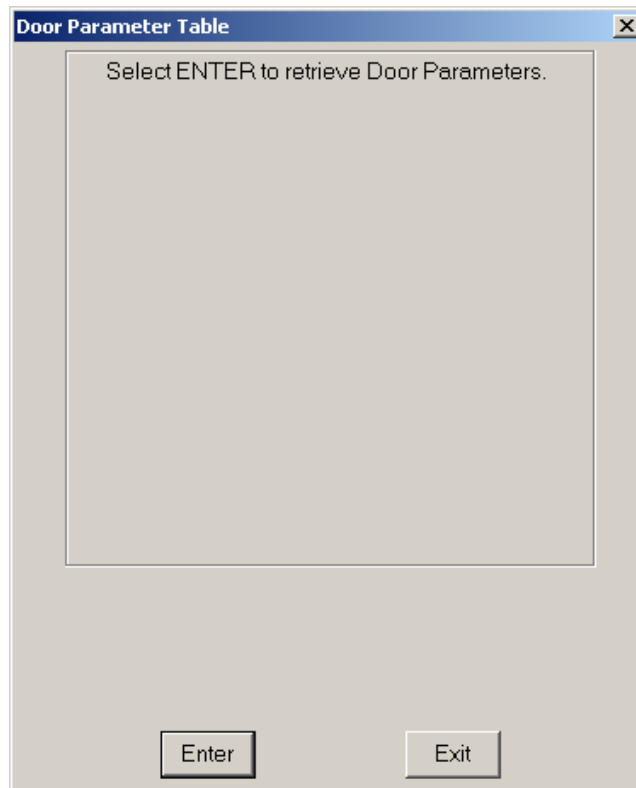

Figure 34
1. If the Door module is present and the user positions the cursor on the **Parameters** pushbutton and clicks the pointing device one time, the Door Parameter Table window will be displayed as shown in Figure 34. To retrieve the Door parameters, the user enables the ENTER function by positioning the cursor on the **ENTER** button and clicking once with the pointing device. If it is not desirable to continue, but desirable to exit the Parameters window then position the cursor on the **EXIT** button and click once with the pointing device.